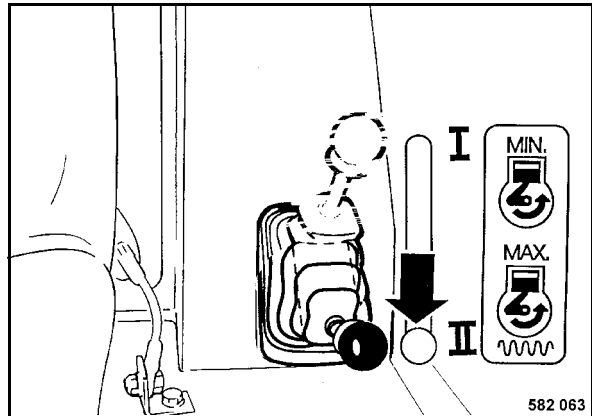

Fig. 36
- Shift the throttle lever to position "II" (Fig. 36) full load and lock it.